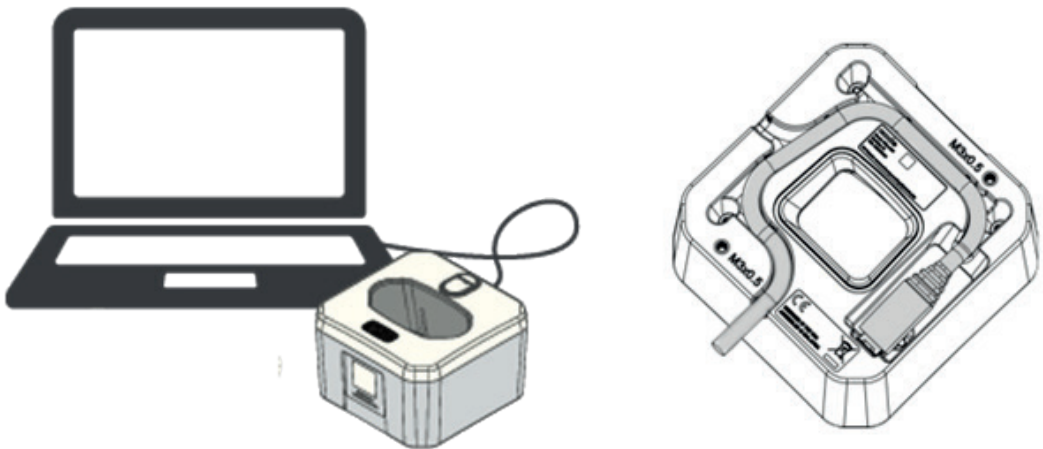

Figure 7 Connect Charging Station
- Insert the micro USB connector of the cable to the micro USB port on the bottom of the charging station (Figure 7).